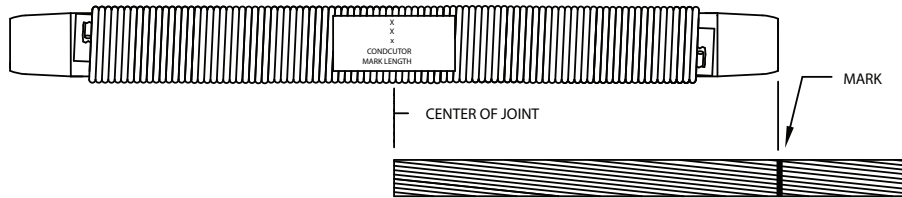

Fig. 1
1. Mark each conductor from label location (at center of Joint) to end of barrel. See Fig. 1.